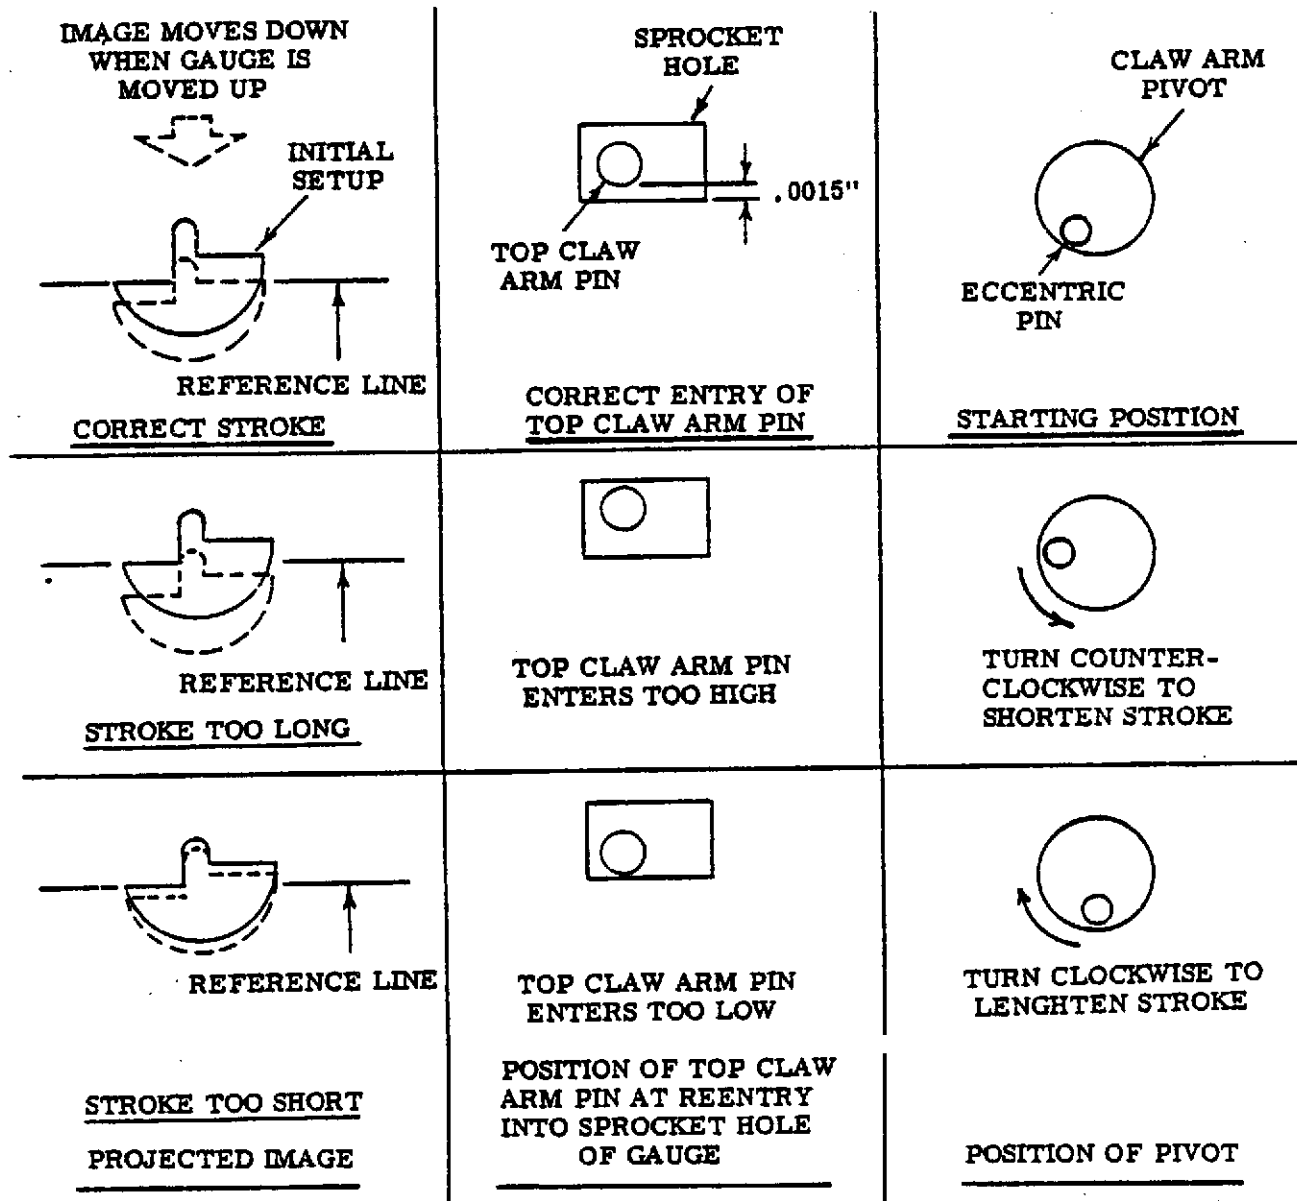

Figure 3-81. CLAW PULL DOWN STROKE ADJUSTMENTS
k. Adjust stroke by placing the Shuttle Cam Adjusting Tool (ST-5884) on the Claw Arm Pivot (18) (Figure 3-76), loosening Screws (14) and (19) and rotating the Pivot (18) and the Bushing (8) the same amount in the same direction simultaneously. Turn counterclockwise (as viewed from the front of the projector) to shorten the stroke, and clockwise to lengthen the stroke. (Figure 3-81)